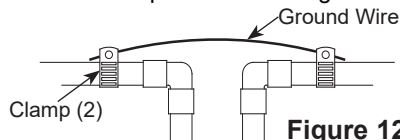

Figure 12
**IMPORTANT:** A copper or galvanized cold water pipe is often used to ground electrical outlets in the home. **Grounding protects you from electrical shock.** The water softener may have broken this ground path. To restore connection, install a 12"-long, 6-gauge copper wire across and tightly clamp using UL-approved 1/2"-1" bronze grounding clamps at both ends as shown (Figure 12). Zinc clamps should not be used on copper plumbing. Wire and clamps may be purchased separately from your local hardware store.